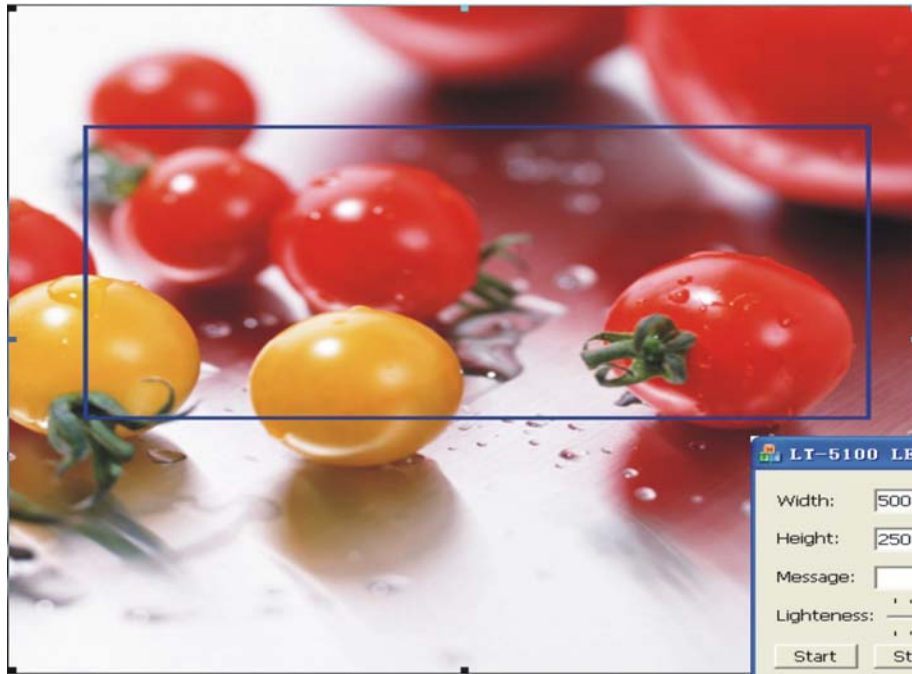

Figure 21 Before moving the Viewfinder frame
2. During the broadcasting, you can drag the viewfinder frame by mouse to find view. When the mouse appears as , press the left key of the mouse and then drag the viewfinder frame to the position when you want to find the view and then release pressing the key. You also can input the value for the X and Y coordinates, then click on “fresh”. As shown in Figure 21